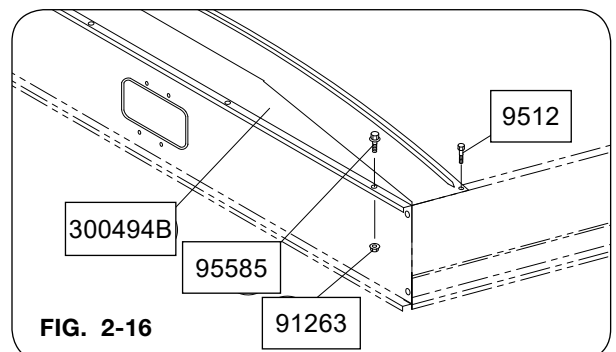

FIG. 2-16
2. Assemble the end caps (300494B) to the front and rear side boards with flange screws (95585) and flange nuts (91263). Fasten to right and left side boards with 1/4 x 1 self-drilling screw (9512). See FIG. 2-16.